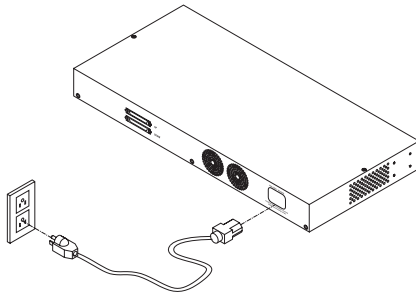

Figure 2-3 Connecting to the power
3. Plug the power cord into the outlet on the wall, turn on the power, and check if the power LED lights up. If it lights up, then the hub is ready to be connected to the network. See Figure 2-3.